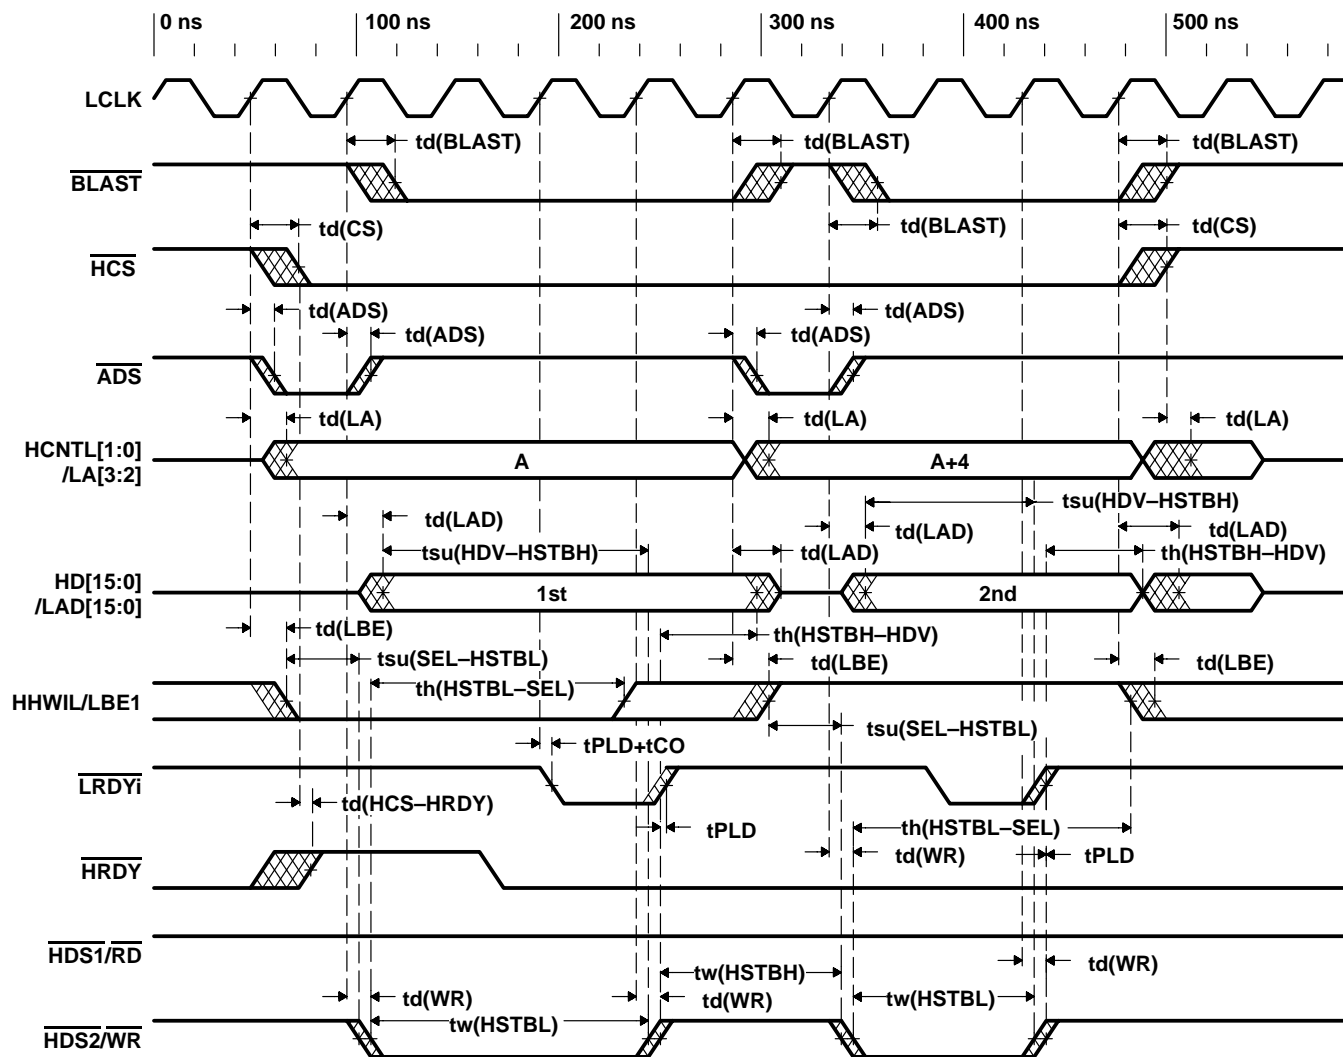
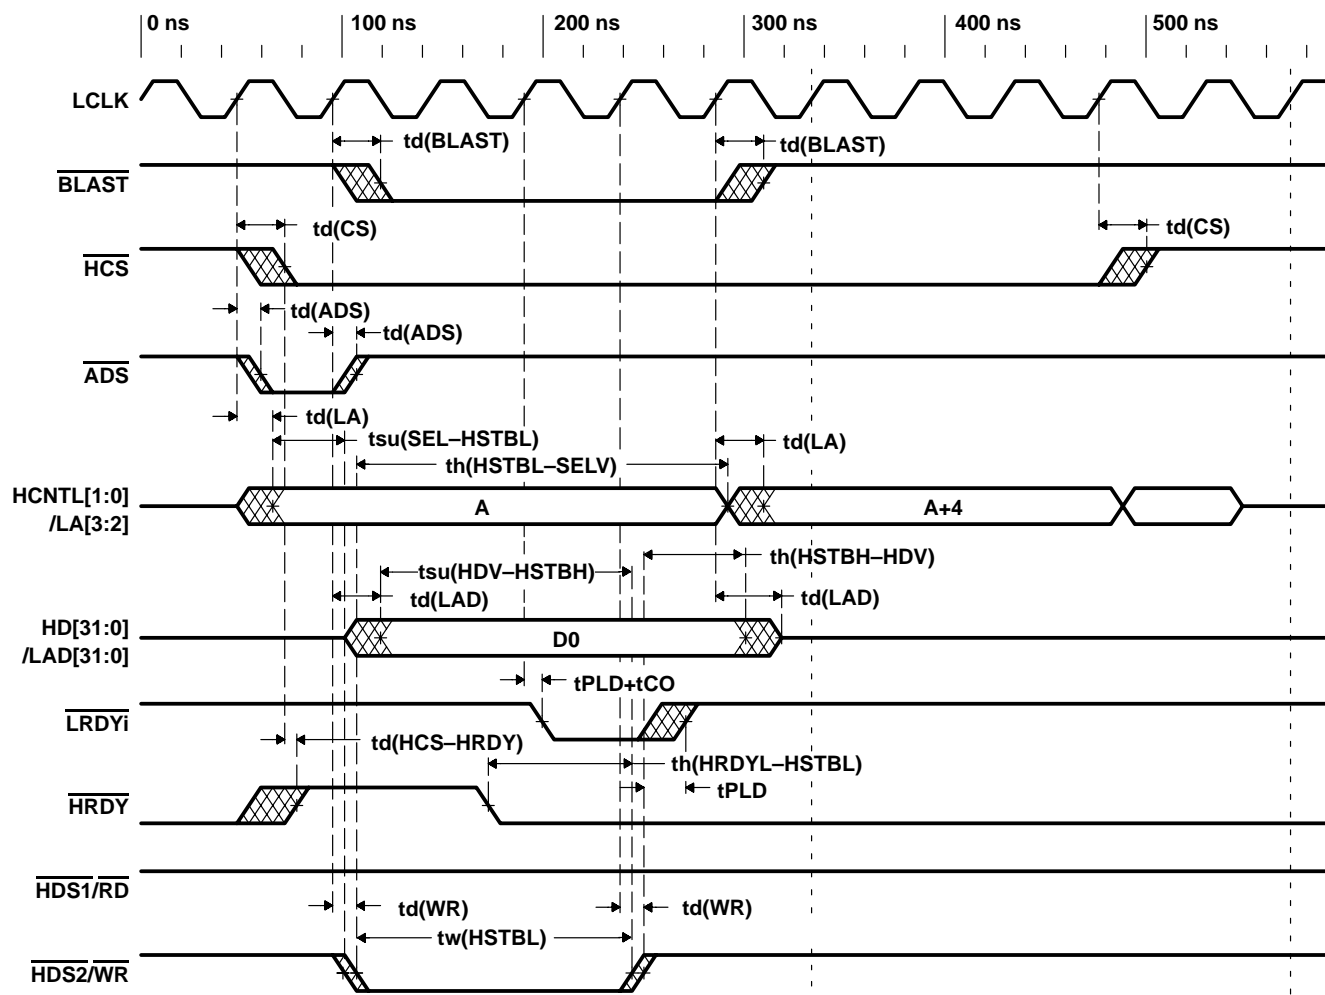

Figure 2. PCI9030 Write to TMS320C6000 DSP Using the HPI (16-Bit)
Figure 3. PCI9030 Write to TMS320C64x DSP Using the HPI (32-Bit)
1. a PCI9030 write to the HPI (Table 2, Figure 2, and Figure 3)